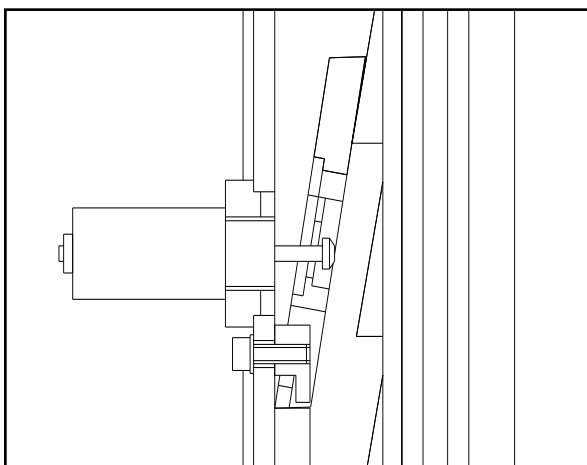

Fig. 28
- ◆ Install the safety devices including electromagnet, automatic locking board and hock board inside both columns. (**Fig. 28**) The first step should install the safety devices under both columns.
- ◆ Install the screw according to Fig. 28.